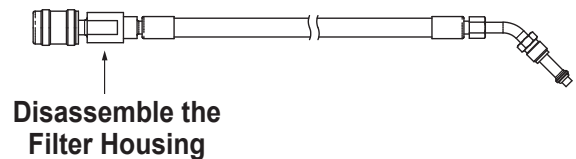

Figure 14
2. Disassemble the tank fill hose at the filter housing as shown in Figure 14.